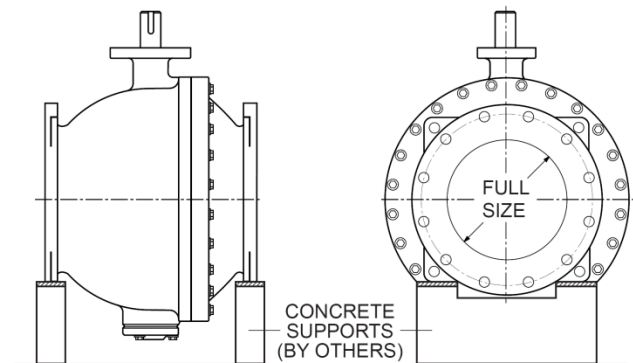

FIGURE 5. Support Valve Weight
VALVE SUPPORT: The valve is designed with integrally cast pads for lifting and supporting the weight of the valve on a suitable hanger, support, or concrete pier. The support system should be designed to support the weight of the valve and not the axial motion of the piping system, see Figure 5.
2. Valves are to be installed in accordance with these instructions. To maintain the integrity of the valve, it is important to avoid subjecting the valve to pipe loads that could drive the valve out of round. The valve is designed for vertical support from a concrete support or similar structure, see Figure 5. The valve support pads should not be anchored to the concrete support but instead rest on a slide plate to avoid axial pipe loads. Piping to and from the valve should be adequately supported and controlled. Piping design requirements should include allowable flange loadings, thermal expansion and contraction, and differential settlement.
A typical traveling nut actuator is shown in Figures 5 and 6 and consists of a threaded nut (12) which travels back and forth on a threaded stem (14). The stem is lubricated with EP2 grease in a cast iron housing (1). The nut, in turn, drives a slotted lever (4) through 90 degrees of travel. The lever (4) drives the valve shaft with a square key. The rotation of the shaft is displayed by the top indicator (19).